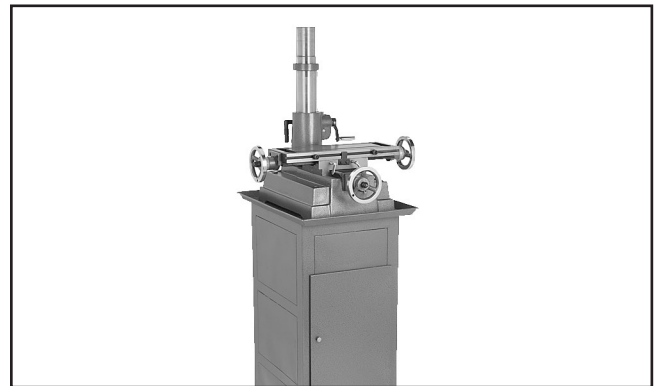

Figure 9. Base assembly attached to stand.
4. Fasten the base assembly to the stand with the mounting bolts, flat washers, and hex nuts provided (see **Figure 9**).